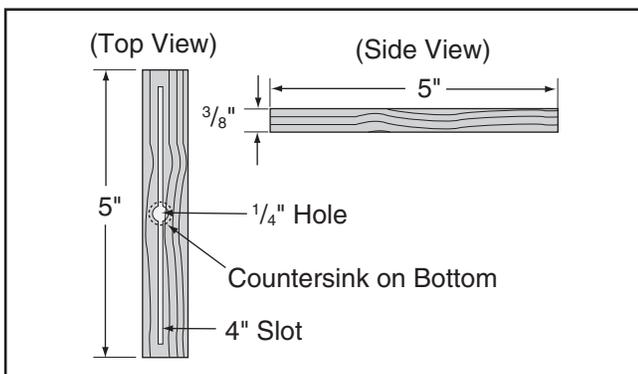

Figure 75. Miter bar pattern.
5. Cut a miter bar that will fit in the table miter slot approximately 5" long, as shown in **Figure 75**.